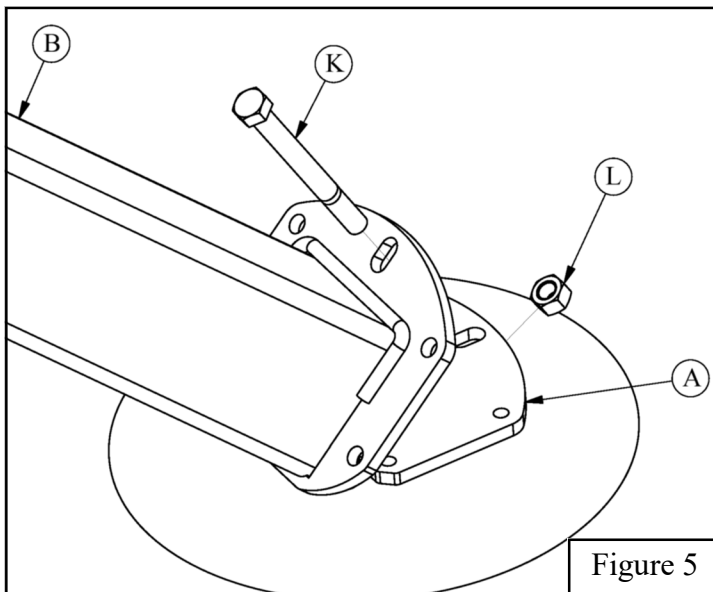

Figure 5
8. Lift *Pole* (B) to approximately 45° and install the 3/4" X 7" Hex Bolt (K) through the slot in the back of the *Pole* (B) bottom plate and then through the slot in the back of the *Ground Anchor* (A) top plate. Hand tighten a 3/4" Hex Nut (L) onto the 3/4" X 7" Hex Bolt (K). Make sure to tighten the 3/4" Hex Nut (L) onto the 3/4" X 7" Hex Bolt (K) until you see threads on the other side of the nut. See Figures 5 & 6.